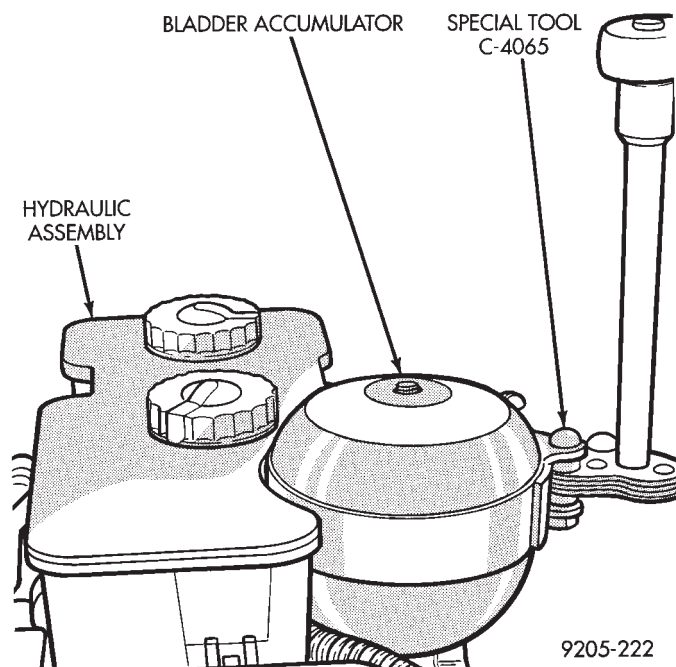
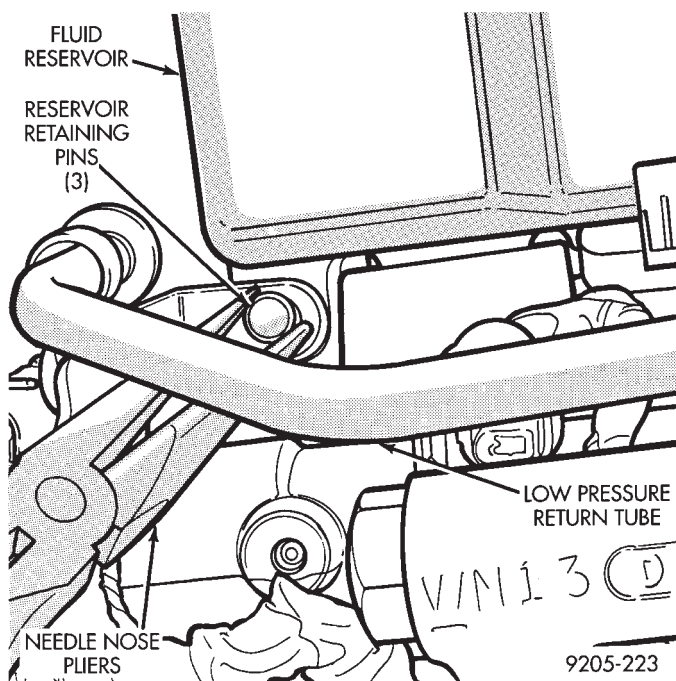

Fig. 10 Removing Bladder Accumulator
Fig. 11 Remove Reservoir Retaining Pins
fluid spray shield from the hydraulic assembly (Fig. 10). Remove high pressure banjo fitting from hydraulic assembly.
(4) Using needle nose pliers, remove the three fluid reservoir retaining pins from the hydraulic assembly (Fig. 11). Compress the barb on the opposite side of retaining pin to prevent pin from breaking.
(4) Using needle nose pliers, install the 3 brake fluid reservoir to hydraulic assembly retaining pins (Fig. 11). Make sure that pins are fully installed with barbs extending past reservoir on opposite side.
(5) Reinstall the high pressure hose, banjo fitting onto the hydraulic assembly and torque the fitting to 13 N•m (10.0 ft. lbs.).
(6) Install the brake fluid spray shield and bladder accumulator onto the hydraulic assembly. Install the bladder accumulator by hand to be sure it does not bet cross threaded. **Be sure that the O-Ring on the bladder accumulator is fully seated into the hydraulic assembly.**
(7) Using Oil Filter Band Wrench, Special Tool C-4065 or equivalent, (Fig. 10) torque the bladder accumulator to 48 N•m (35 ft. lbs.).